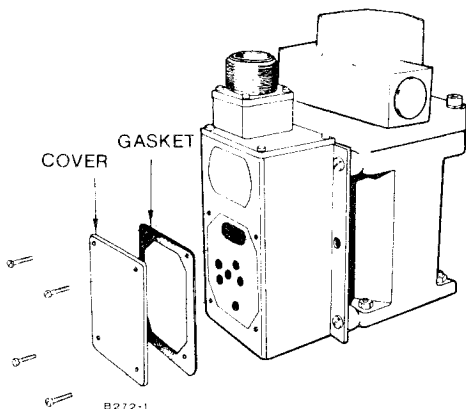

FIGURE 26. BARBER COLMAN GOVERNOR
1. Remove four screws and cover from governor controller. Refer to Figure 26.